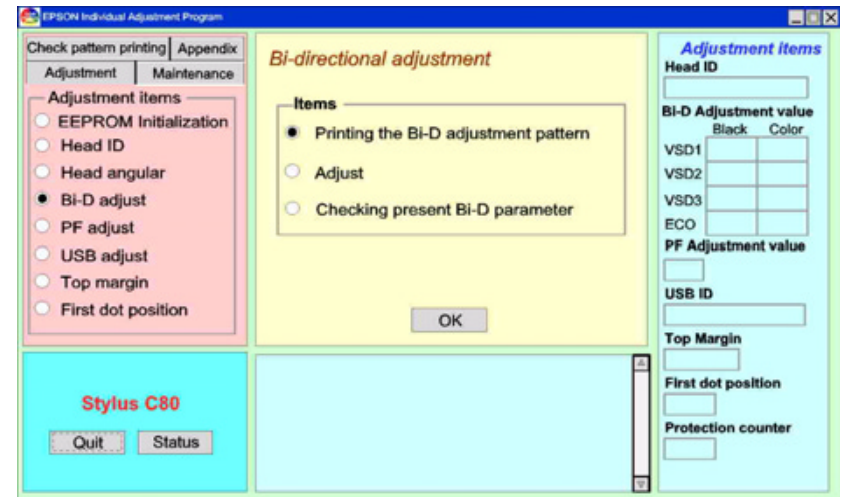

Figure 5-22. Bi-D Adjustment Initial Screen
- Press "Previous" button to return the program screen to Figure 5-22 Bi-D adjustment initial screen.